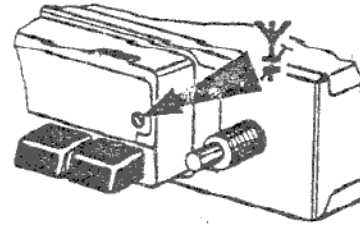

Fig. 6
- 3.7 Switch radio to AM reception. Tune-in weak station between 500 and 600 KHZ. Peak antenna trimmer for maximum loudness (Fig. 6).